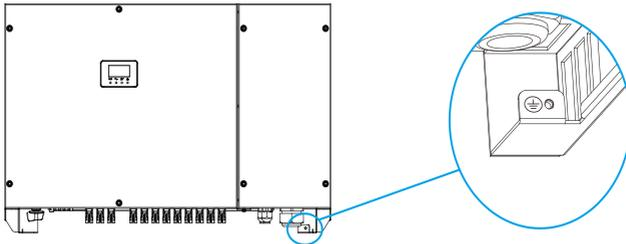

Figure 5.3 Securing the PGND cable to the ground point
- Step 3 : Remove the ground screw from the ground point, secure the PGND cable (from step 1 & 2) using the ground screw with a torque of 5 N•m, as shown in Figure 5.3. The PE (ground) wire must be well grounded to ensure that impedance between Neutral wire and Earth wire be less than 10Ω.